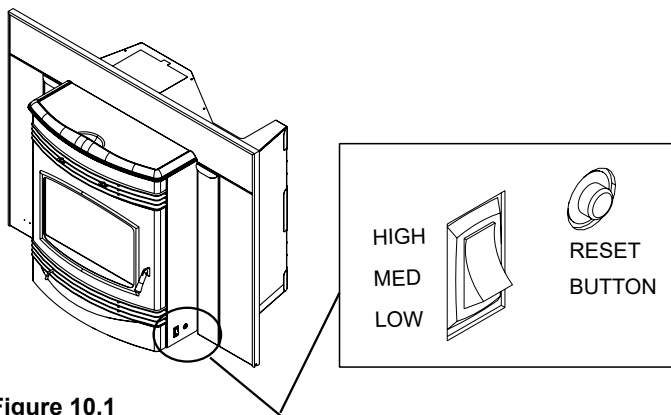
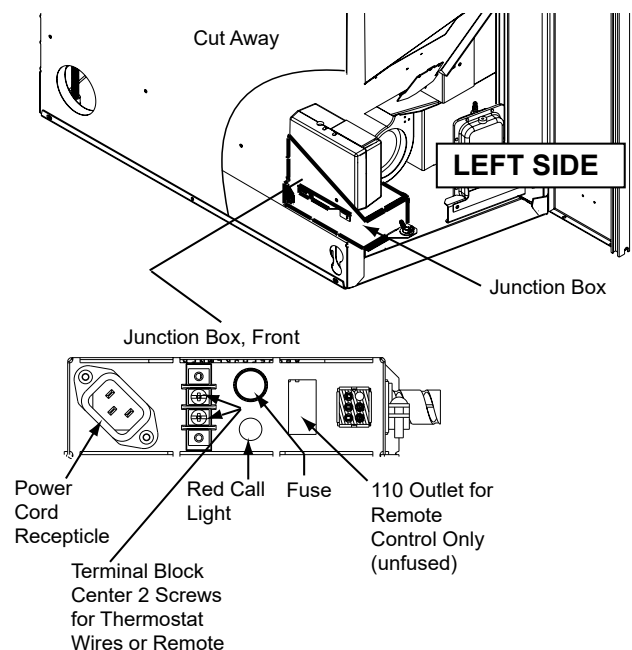

Figure 10.1
Figure 10.2
This appliance is equipped with a heat output control switch that has three settings or burn rates; low, medium and high (**Figure 10.1**). The appliance will turn on and off as the thermostat demands. When the thermostat calls for heat, the appliance will always start up on High. After burning approximately 4 minutes, the appliance will then burn at the rate at which it was originally set. If the appliance is set at one of the lower settings, it will run quieter but takes longer to heat up an area than if it were set at a higher burn rate. Regardless of the burn rate, when the area is warm enough to satisfy the thermostat, the appliance will shut off.
3. Locate the heat output control switch on the lower right side of the firebox in front of the right access panel. Set to the HIGH setting and then adjust the thermostat to its highest setting. The red call light will be on which is located on the front of the junction box behind the left access panel. This indicates the thermostat is calling for heat (**Figure 10.2**).
3. Occasionally the appliance may run out of fuel and shut itself down. When this happens, the red call light will be on (**Figure 10.2 on page 10**). To restart it, fill the hopper and press the reset button (**Figure 10.1 on page 10**). When you press the reset button the red call light will go out. Release the button and the light will come back on. You should see a fire shortly. If not, follow **Starting Your First Fire** on page 10.